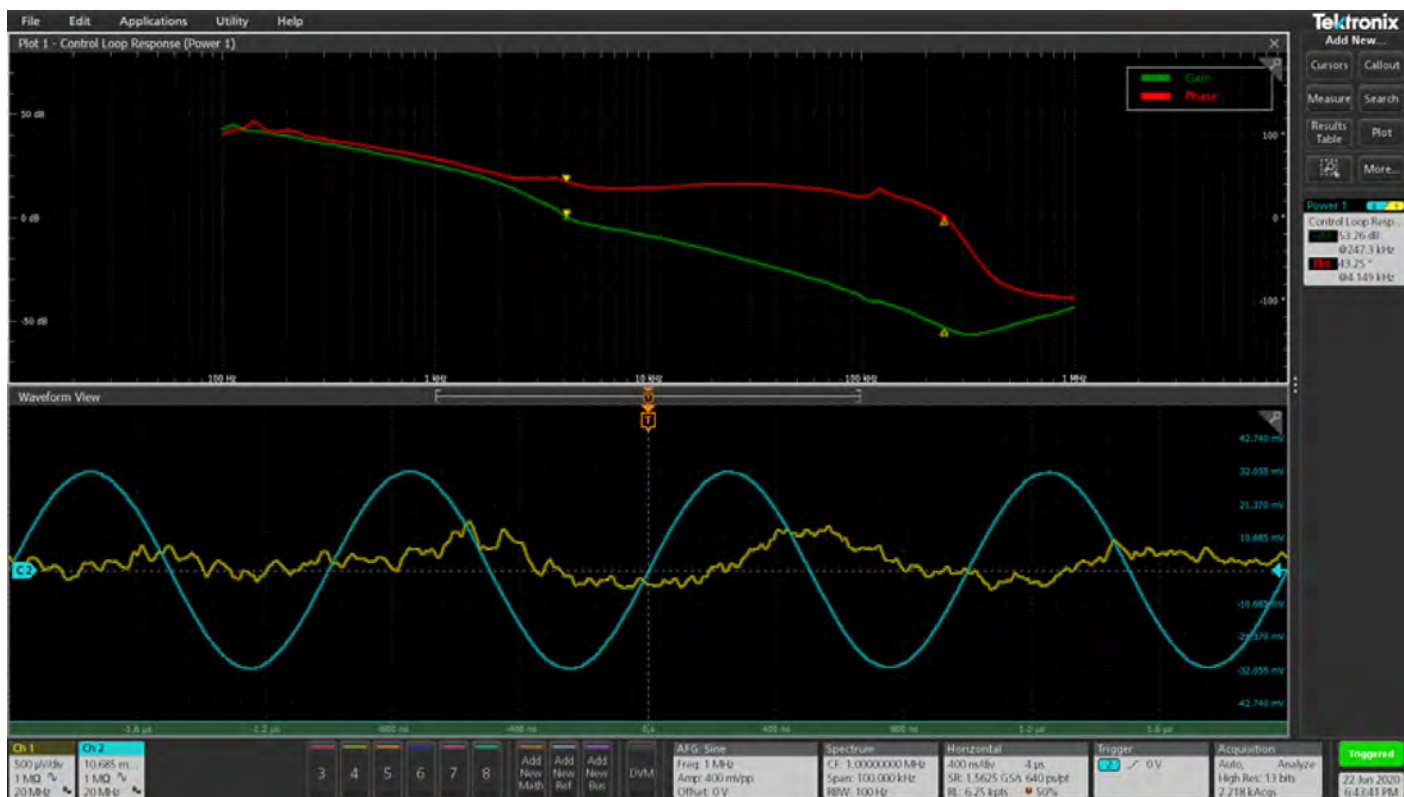
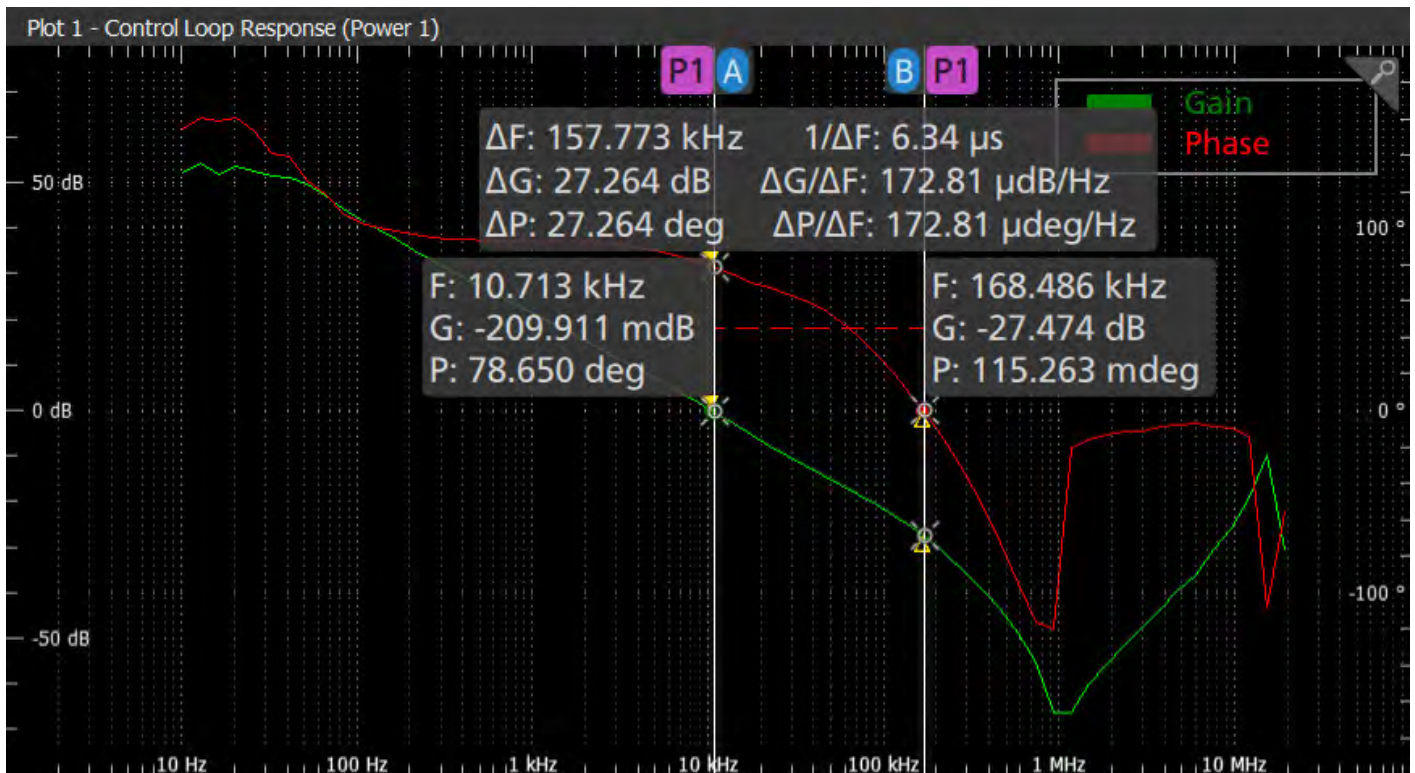

Figure 8. Gain and phase versus frequency, gain margin and phase margin measured on a 5 Series MSO oscilloscope.
Figure 10. Cursors indicate gain and phase at specific frequencies, as well as the difference between points
**Figure 8** shows the gain and phase plots on a 5 Series MSO using the following settings to make measurements on a point-of-load regulator:
Gain and phase margins are presented in “badges” on the right. For the example shown in Figure 8, the gain margin measures 53 dB and phase margin measures 43°. As shown in Figure 10, cursors may be used on the Bode plots to indicate gain and phase at any frequency. The difference between the two cursors is also displayed. Being able to quickly pick off measurements helps accelerate debugging.